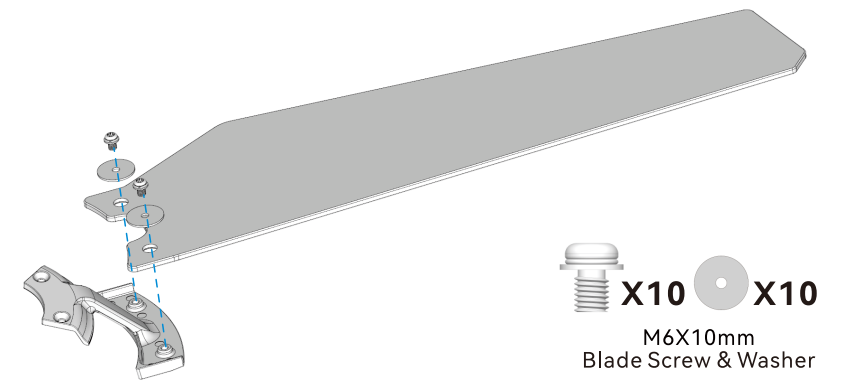

Fig. 1.1
- 1.1 Locate the 10 blade attachment screws and washers included in the hardware pack. Use these screws and washers to firmly attach each blade to the blade bracket, as demonstrated in Fig. 1.1.